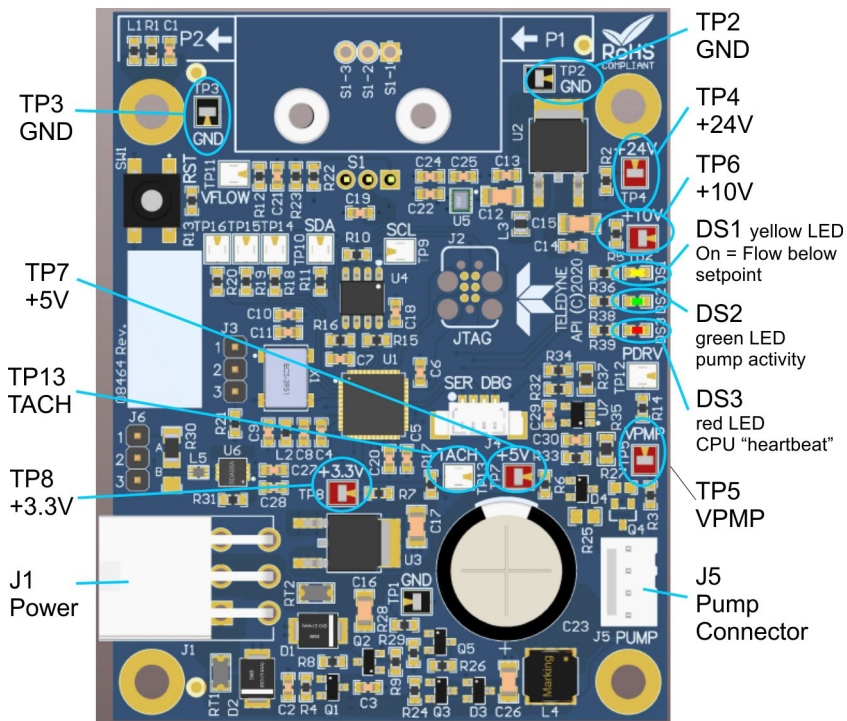
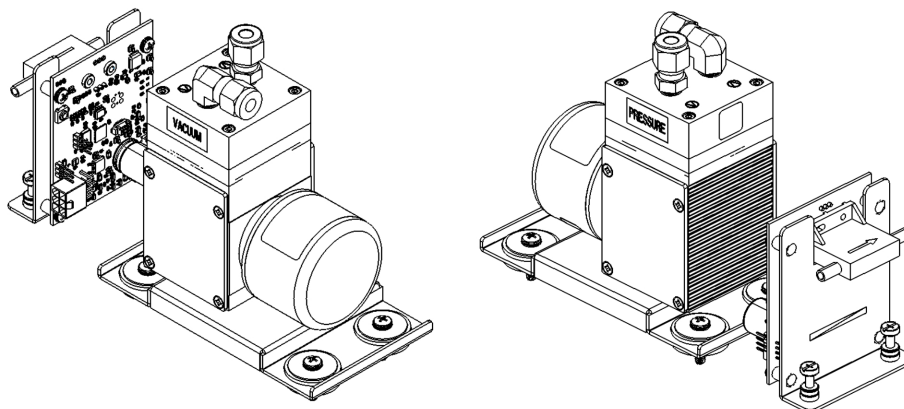

Figure 5-10. DC Pump Control Board LEDs
Figure 5-11. HD non-PID Controlled Pump
This is when the unit displays a SAMPLE FLOW Alert, or the SAMPLE FLOW function reports a zero or very low flow rate. The instrument has a controlled HD pump (Figure 5-11) which controlled by the pump PCA (see Figure 5-10 for LED descriptions and Figure 5-14 for connectors).
1. Check that the communication/activity LEDs on the pump board (Figure 5-10) are illuminated and/or blinking. If not, check power to board via its test points.